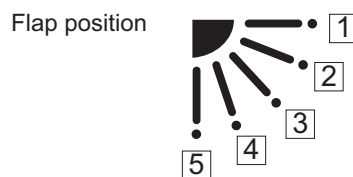

Fig. 2-3
- \* Setting data " **YYYY** " (refer to Fig.2-3)
When the flap position is set to **4** or **5** and the unit is in the cooling or dry mode, the flap position is moved to **3** and the operation is started. (refer to Fig.2-3)
At this time, the unselected flaps are moved to the position **1**. (refer to Fig.2-3)